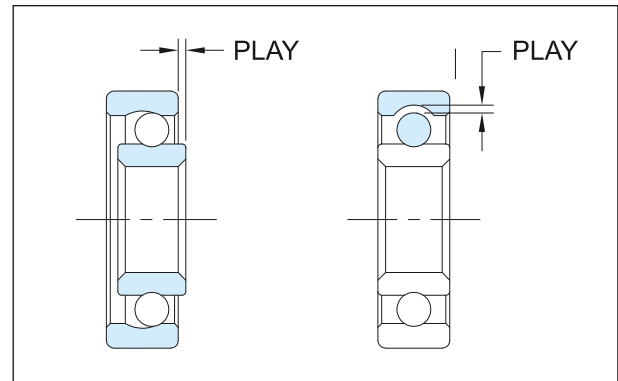

Fig. 3.89
- Inspect the play of each bearing before fixing it. Hold the inner race and rotate the outer race by hand and observe for any abnormal noise and smooth rotation. Replace the bearing with a new one if found defective. (Fig. 3.89)